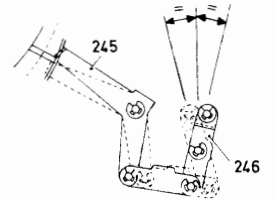

Fig. III-7
- Check that locking bracket 246 (Fig. III-7) comes out symmetrically when the lower drum is turned in and out by hand.